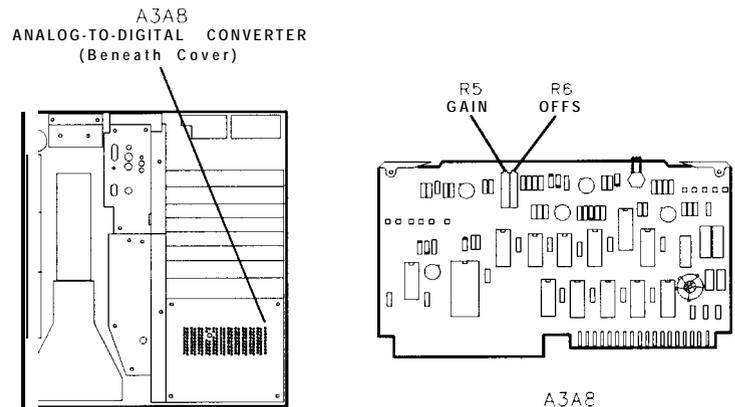

Figure 3-86.
- f. Adjust A3A8R6 OFFS for a square wave displayed on the oscilloscope. The square wave should be approximately 4 V_{P-P}. See Figure 3-86 for location of adjustment.
1. Adjust A3A8R5 GAIN for a square wave displayed on the oscilloscope. The square wave should be approximately $4 V_{p-p}$. See Figure 3-86 for location of adjustment.
- f. Adjust A3A8R6 OFFS until the level at A3A8TP11 is at a maximum ac voltage as indicated by the DVM (approximately 2.0 V ac). See Figure 3-86 for location of adjustment.